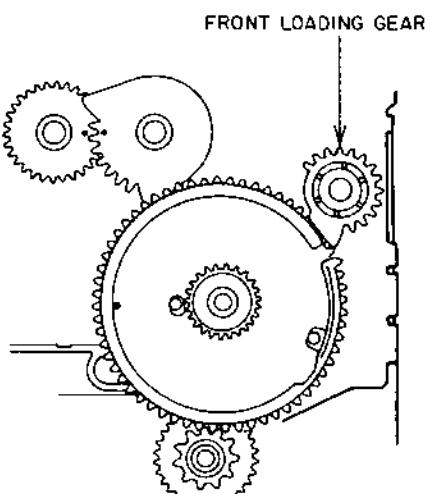
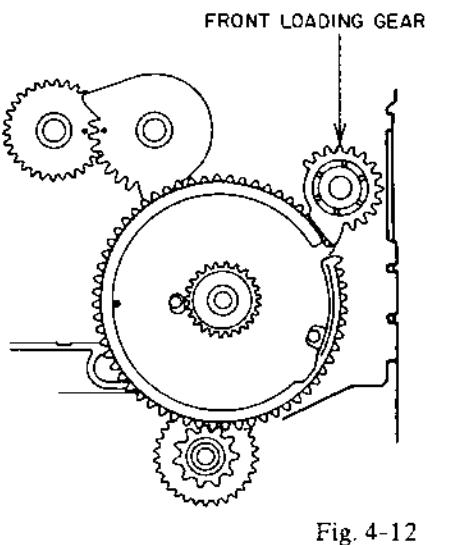

Fig. 4-12
Fig. 4-13
- 3) Attach the FRONT LOADING GEAR as shown in Fig.4-12. At this time, align the **(B)** mark on the FRONT LOADING GEAR with the **(B)** hole of the FRONT LOADING SLIDER as shown in Fig.4-13.